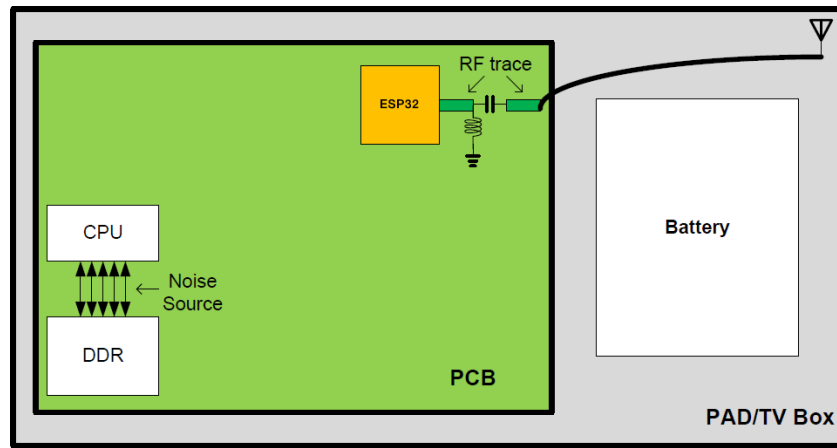

Figure 25: PAD/TV Box Layout
- As can be seen in Figure 25, ESP32 should be placed near the edge of the PCB and away from the CPU and DDR, the main high-frequency noise sources. The distance between the chip and the noise sources decreases the interference and reduces the coupled noise.